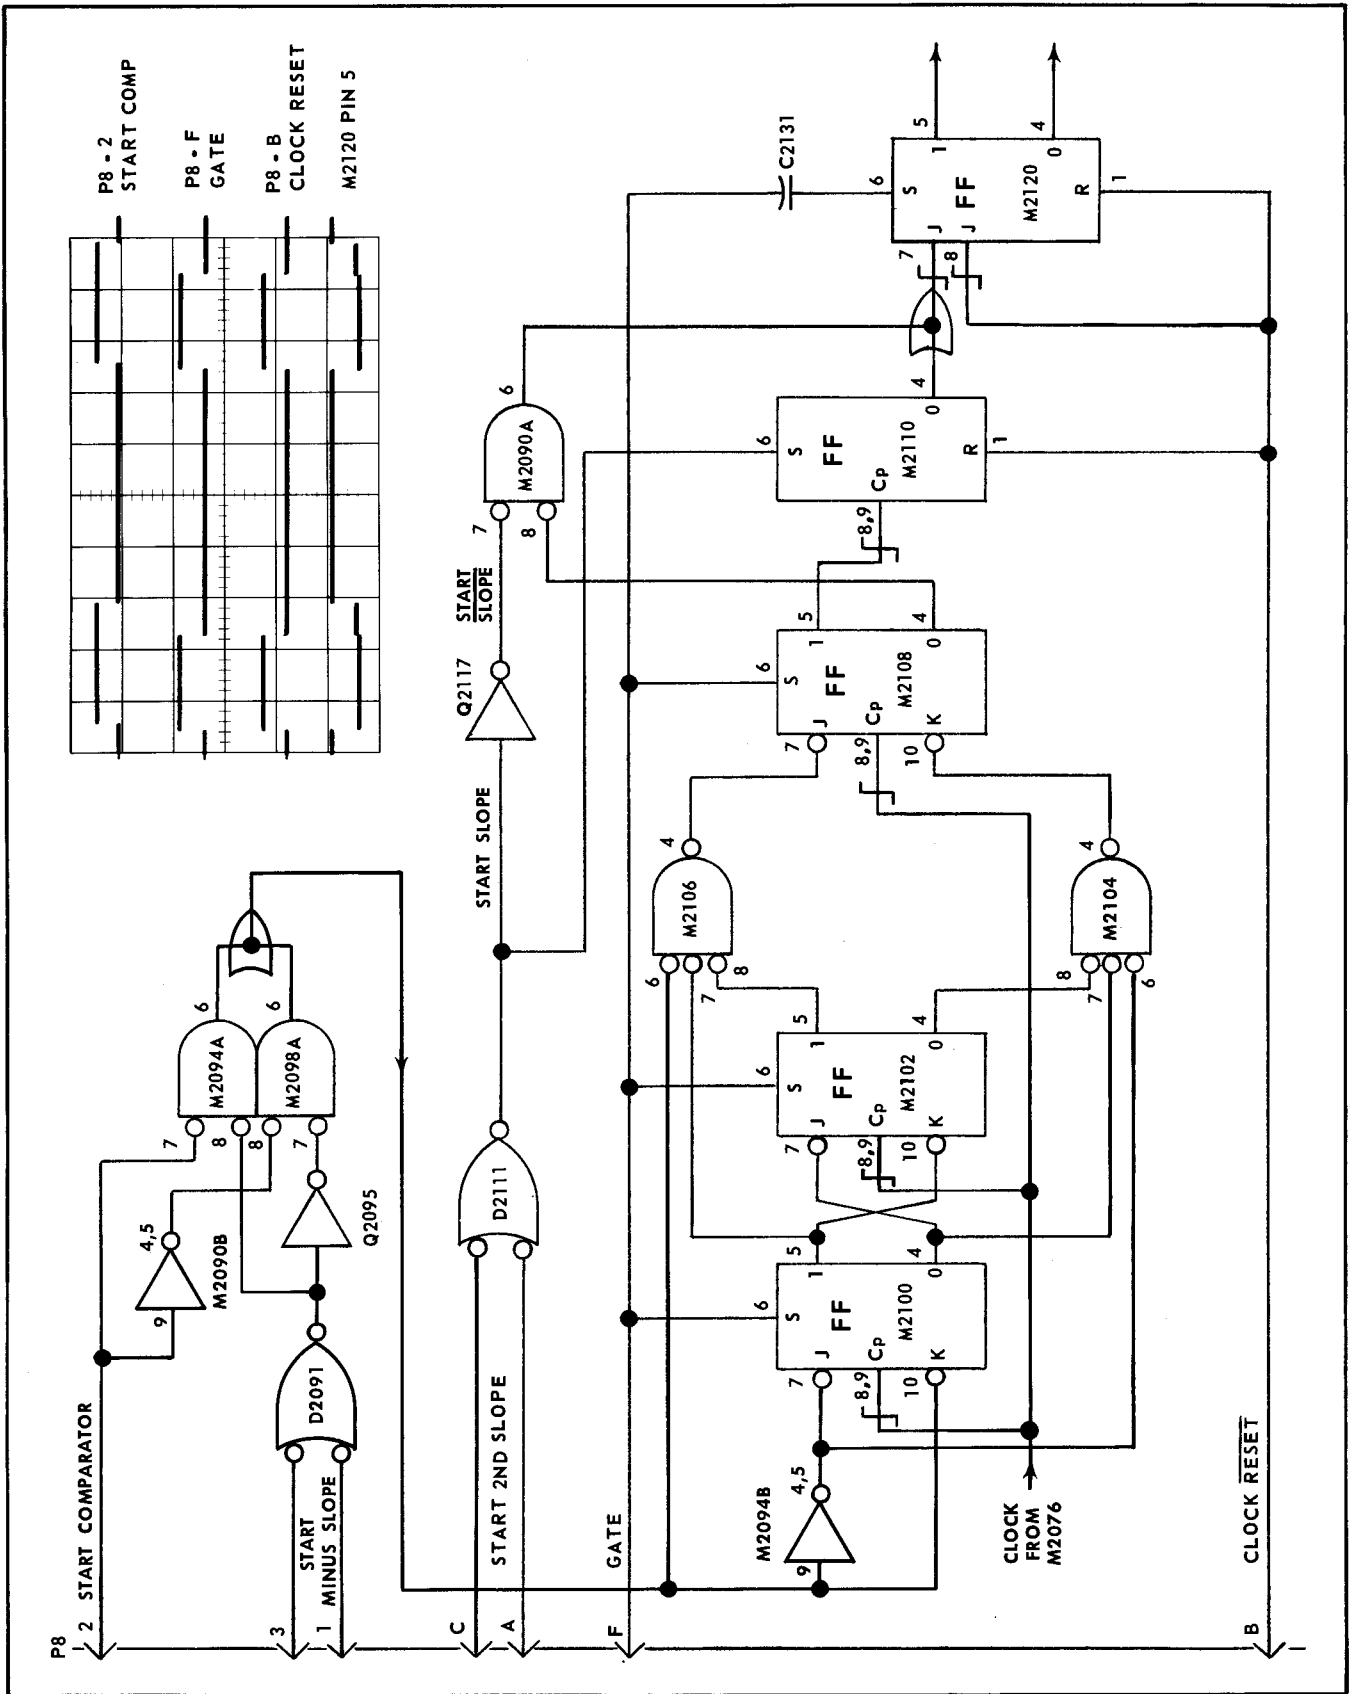

Fig. 4-35. 3 dot delay circuit logic.
**Start First + Slope Mode.** For purposes of explanation assume that the Type 230 is set to start the measurement on the first positive slope of the displayed waveform. In this mode of operation P8 pins A, C, 1 and 3 are high (see Fig. 4-35). The outputs of OR gate diodes D2091 and D2111 are high. Between sweeps the GATE signal goes positive and sets the three-stage shift register consisting of JK flipflops M2100, M2102, and M2108. All three flipflops have highs on their pin 5 outputs, lows on their pin 4 outputs. Whenever GATE goes high, CLOCK RESET also goes high and prevents flipflop M2076 from passing clock pulses until the start of the measurement sweep. The input from the start comparator on P8 pin 2 is high until a comparison is made. The high from P8 pin 2 and the high from D2091 are inverted by M2090B and Q2095, appearing as lows at the inputs of NAND gate M2098A. The output of M2098A goes high and is applied as an inhibiting input to M2100 pin 10. The high output of M2098A is also inverted by inverter M2094B and is applied as a low to negative-logic AND gate M2104 pin 6. The other two inputs to M2104 are the lows from M2100 and M2102 pins 4, so the output of M2104 goes low, removing the inhibiting voltage from flipflop M2108 pin 10. These are the conditions that exist at the beginning of the measurement sweep. The count in three-dot delay circuits is 0-0-0.